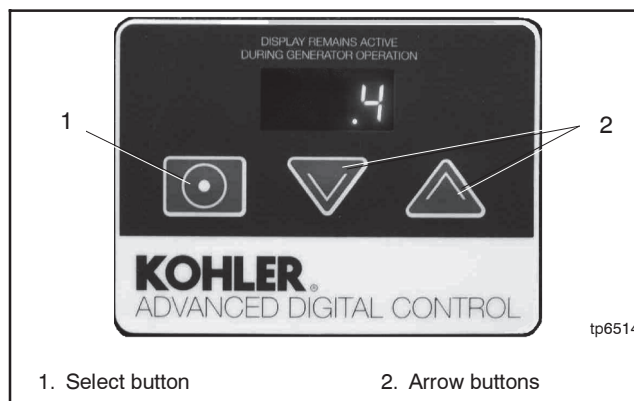

Figure 5-9 ADC-RES Control
Follow the instructions in Figure 5-10 to enter the configuration mode while the engine is not running and then step through the following parameters. Use the up (Λ) and down (V) arrow buttons to select the appropriate setting for the application. See Figure 5-9.
The generator set must be running during voltage and frequency adjustments. Use a digital multimeter to check the output voltage and frequency. Refer to Sections 6.7.2, Voltage Adjustment, and 6.9.5, Frequency Adjustment, for instructions to measure the output voltage and frequency. Use the ADC controller to adjust the output voltage and engine speed (frequency), if necessary, while the generator set is running. See Figure 5-9. The flowcharts in Figure 5-13 through Figure 5-15 outline the adjustment procedures.